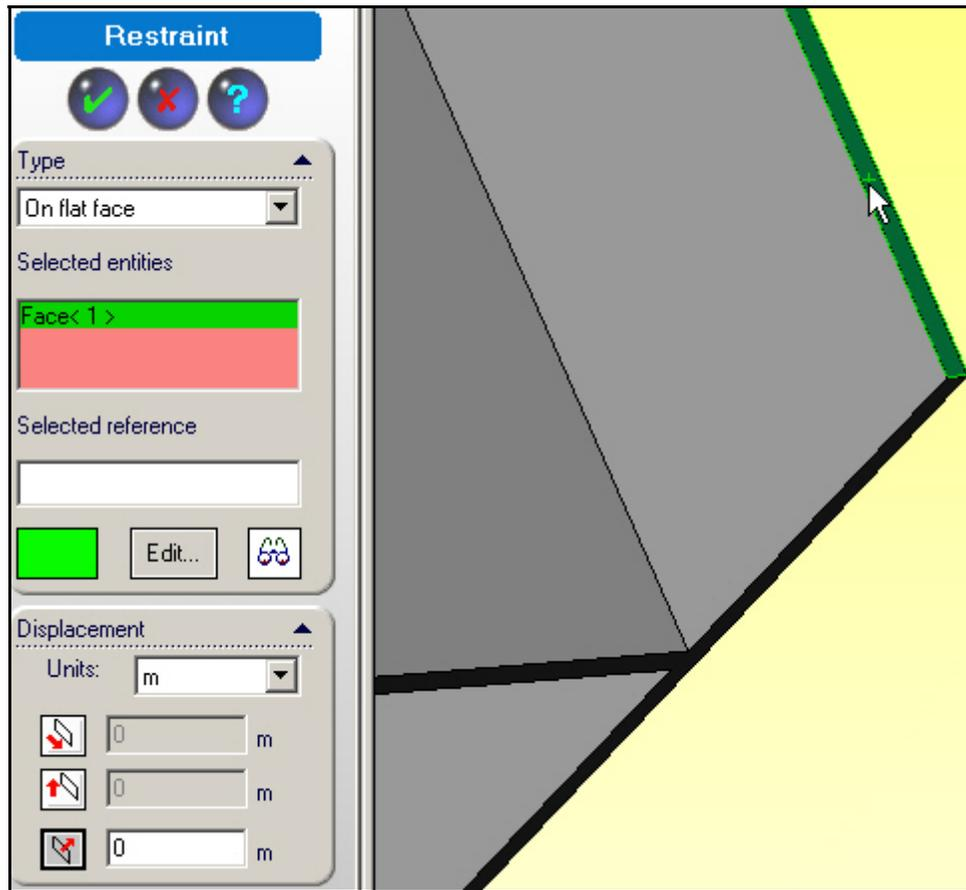

Figure 15 Bottom edge vertical displacement restraints
3. As seen in Figure 15, you first pull down to **On flat face** to set the **Type** of entity being restrained, then in the zoomed graphics window you pick the flat bottom edge surface so it enters the **Selected entities** list.